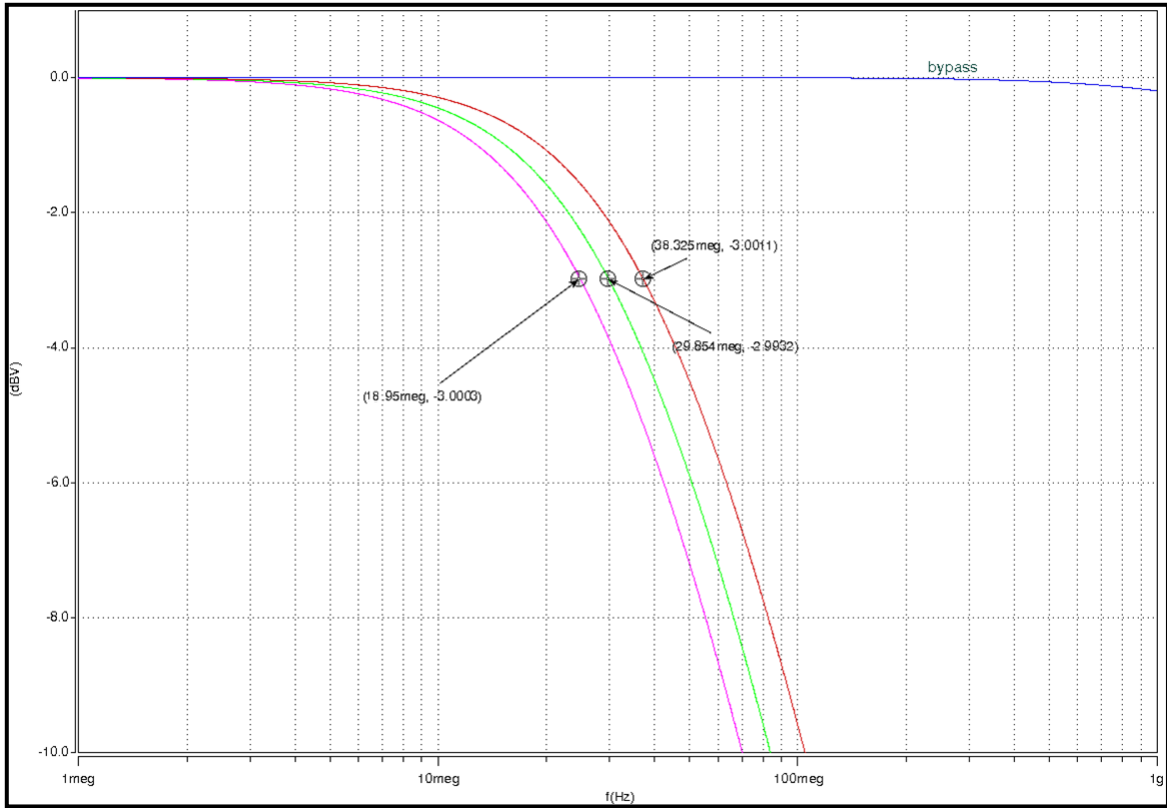

Figure 2.2 Anti-aliasing Filter characteristic
**NVP6134** includes 4 Channel Analog Processing circuits that comprise anti-aliasing filter, EQ Filter, ADC and CLAMP. Because its design is dedicated for video application, Analog Processing circuit does not require external reference circuit. External coupling capacitance only is needed for **NVP6134**. Figure 2.2 demonstrates the bode plot of Anti-aliasing Filter. Anti-aliasing Filter is controlled by Register and include bypass mode that don't have AFE filtering.